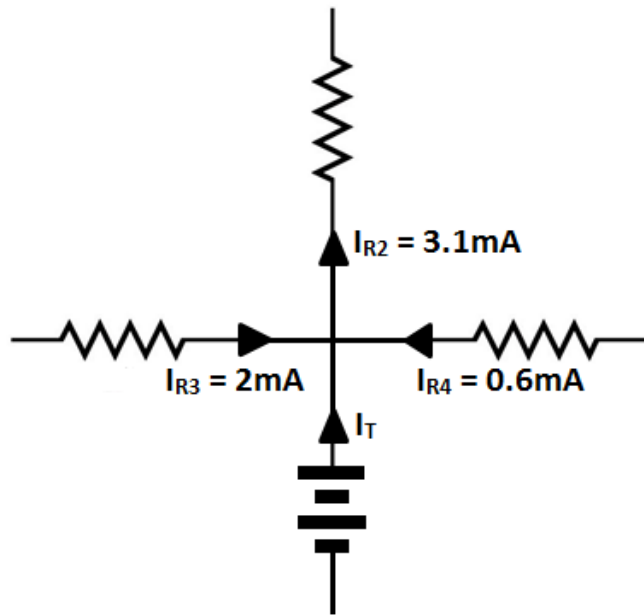

FIGURE 2
3.2 Study FIGURE 2 below and then use KCL to calculate the unknown current I_T .